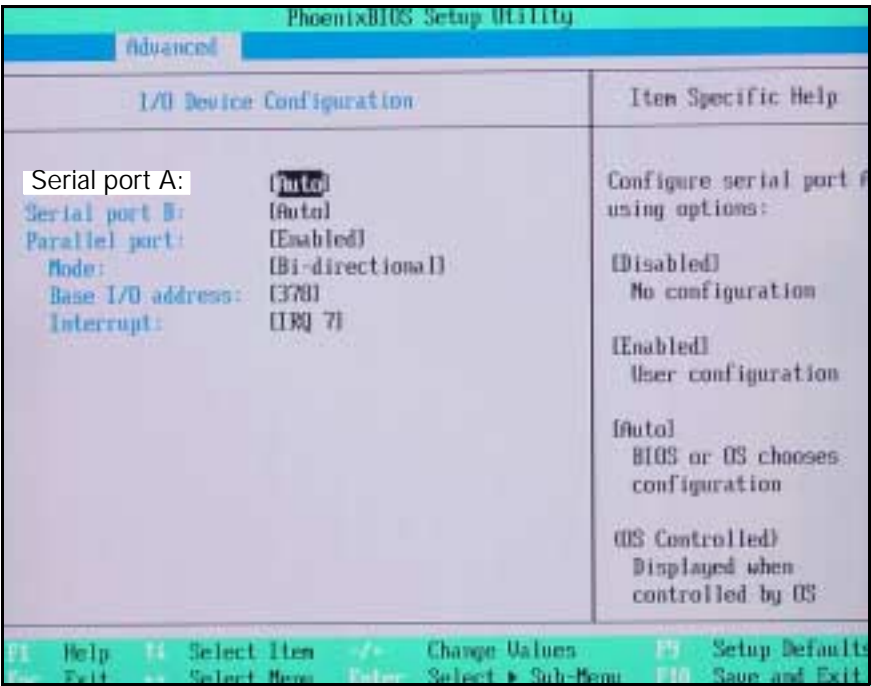

Figure 2-5 I/O Device configuration
15) Verify correct “I/O Device Configuration” settings as shown in Figure 2-5.